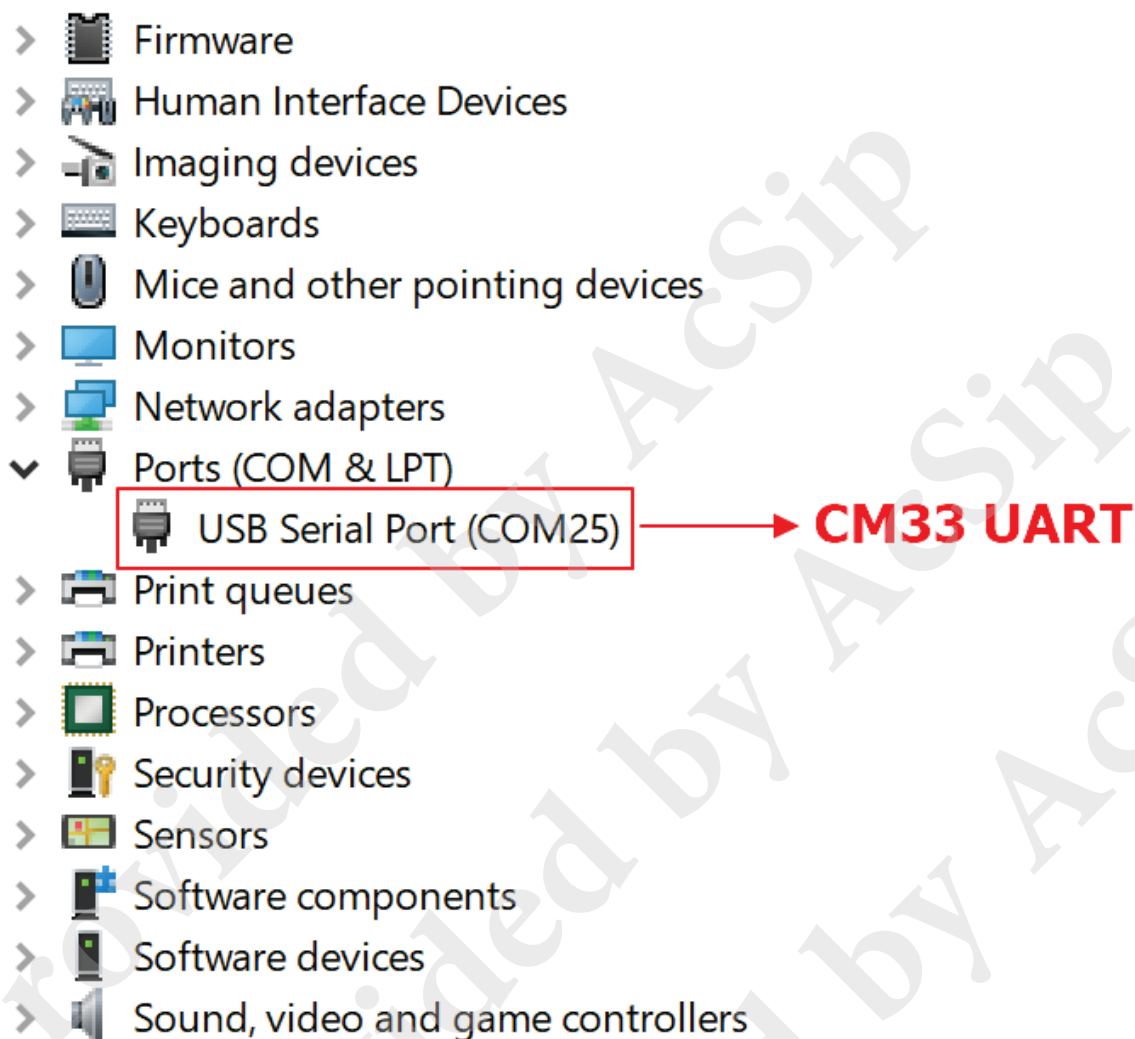

Figure 3. COM port associated with the EK-AI7931LD
- 4) In Device Manager, navigate to Ports (COM & LPT) (see Figure 3).
- 5) A new COM device should appear under Ports (COM & LPT) in Device Manager, as shown in Figure 3. Note the COMx port number of the serial communication port, this information is needed to send command and receive logs from the COM port.
Due to the com port numbers (COMx) are different at different PC. As red block in Figure 3. showed, means “CM33 UART”.